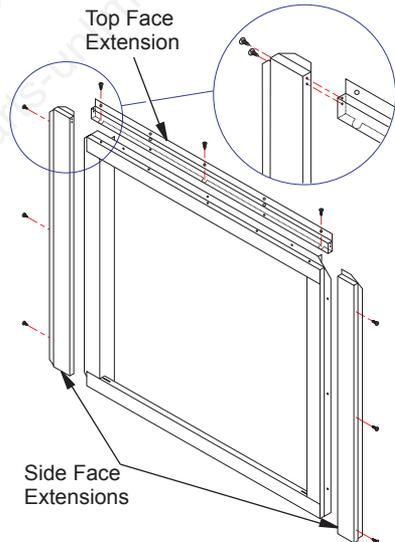

Figure 40 - Front Face Extension, Model CD36 Series Only
1. Remove existing screws from front face assembly as shown in Figure 40.
2. Align holes on top face extension with holes on top side of front face assembly and secure with screws previously removed (see Figure 40).
3. Align holes on right face extension with holes on right side of front face assembly and secure with screws previously removed (see Figure 40). Do the same for left side.
4. Secure top face extension with left and right face extensions with two sheet metal screws (see Figure 40).